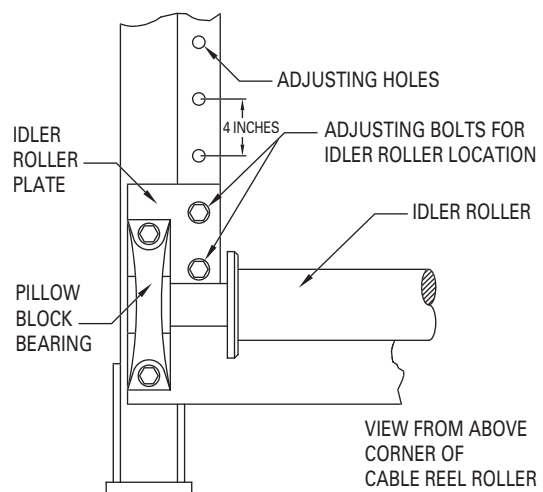

figure 1
3. Adjust the distance between the rollers. (See Roller Position Chart on pg. 5) Remove the four adjusting bolts (2 each side) connecting the idler roller plate to the reel roller base. Slide the idler roller assembly to the desired position and replace the 4 bolts. *See figure 1.*